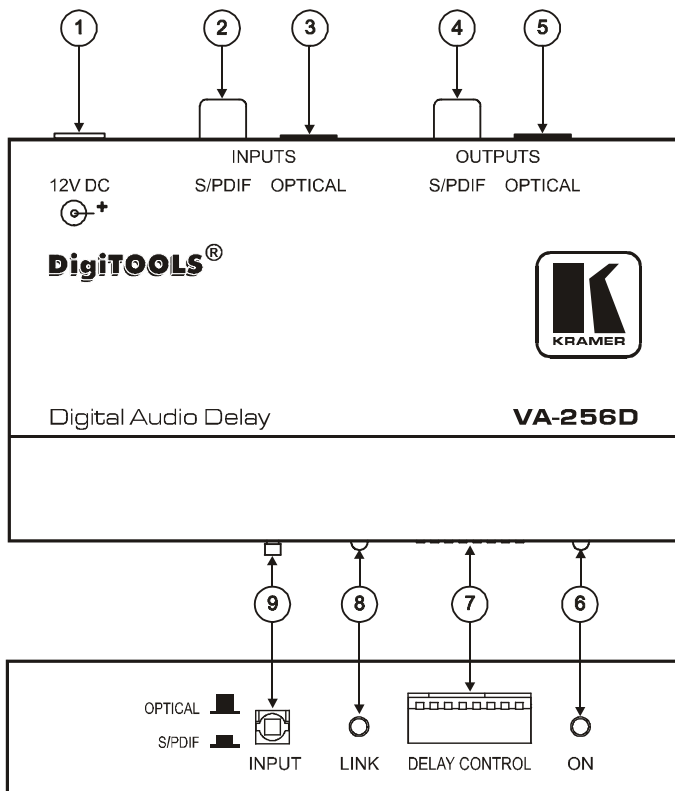

Figure 1: VA-256D Digital Audio Delay
Figure 1 and Table 1 define the **VA-256D** *Digital Audio Delay*:
5. Push in the INPUT button (item 9 in Figure 1) to select to select the S/PDIF source, release it to select the optical source¹.